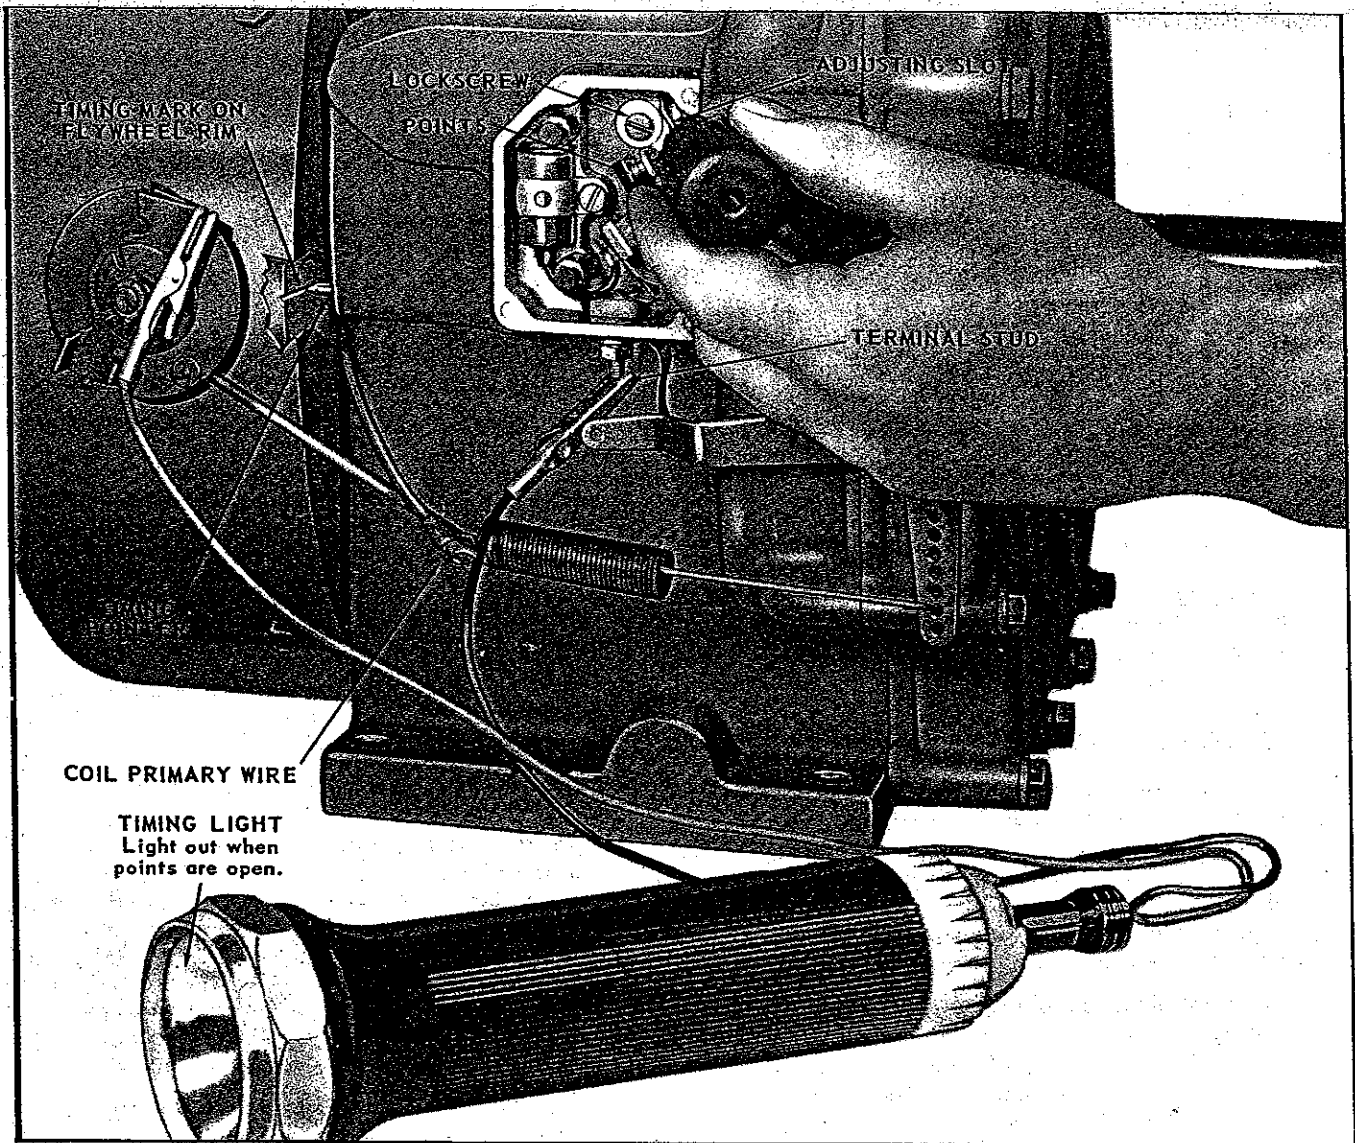

Fig. 12
The fixed running spark advance of 18° is regulated by the breaker point opening and reasonably accurate timing is obtained by simply setting the breaker point gap to 0.023 inch, as explained in "Breaker Point Adjustment". However, static timing with a continuity light, as illustrated in Fig. 12, is more accurate and advisable. The timing light is Wisconsin Motor part number DF-81-S1.
**STATIC TIMING PROCEDURE:** See Fig. 12.